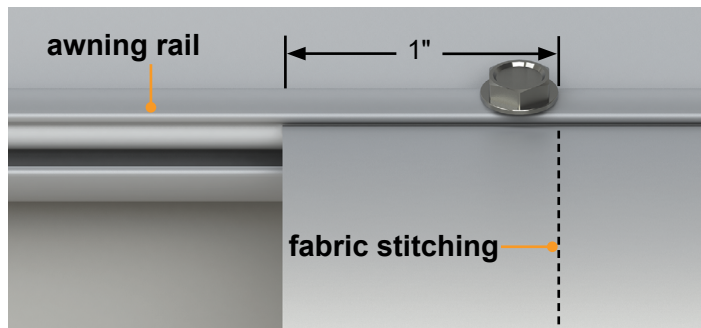

Fig.8
2. Secure the fabric in the awning rail no more than 1" inside the edge of the fabric on both ends using a #6 x ½" hex head screw. Install the screw down through the awning rail into the fabric and the polycord (Fig.8).